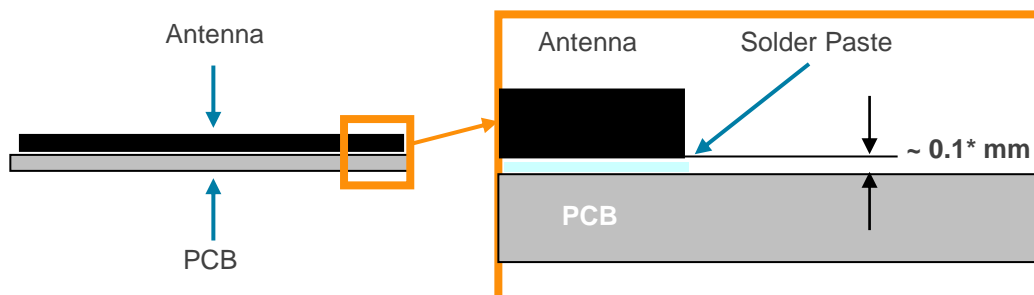

**Figure 5** – Pads of the FracFM™ chip antenna.
**Figure 5** shows the back and front view of the FracFM™ antenna, and indicates the location of the feeding point and the mounting pads: